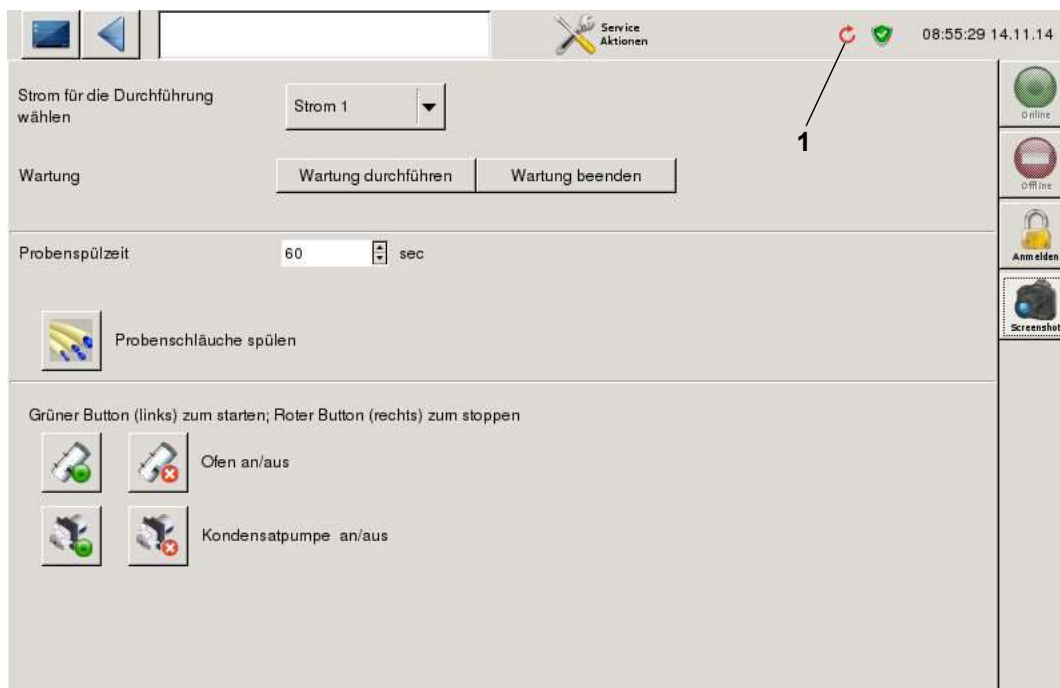

Fig. 71: Service actions - „Perform maintenance“
1. Select sample current (Fig. 71, page 108) via the "Select current for the execution" button.